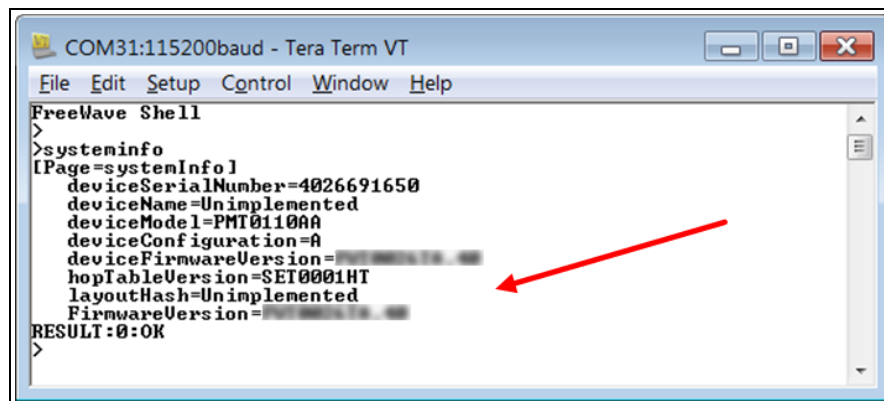

Figure 23: Existing Firmware Version Installed on the Z9-C / Z9-T
12. Optional: At the > prompt, type **systeminfo** and press <Enter> to view the current firmware version on the **Z9-C** or **Z9-T**. Figure 23